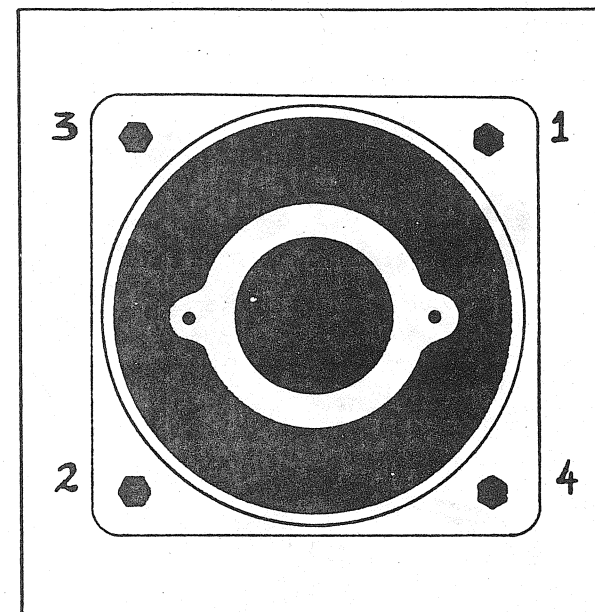

FIGURE 16
- Partially insert the four (4) capscrews into the bowl plate and suction piece, then cross torque to 12 ft/lb (fig. 16).